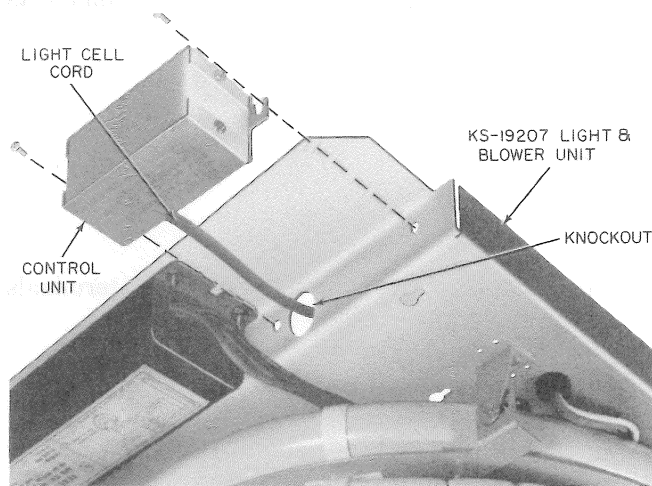

Fig. 6—Installation of List 1 Light Control Unit on Light Fixture
- (d) Remove knockout from side of light fixture (Fig. 6) and install control unit as shown.
- (d) Remove knockout from rear of light fixture (Fig. 6) and install control unit as shown.